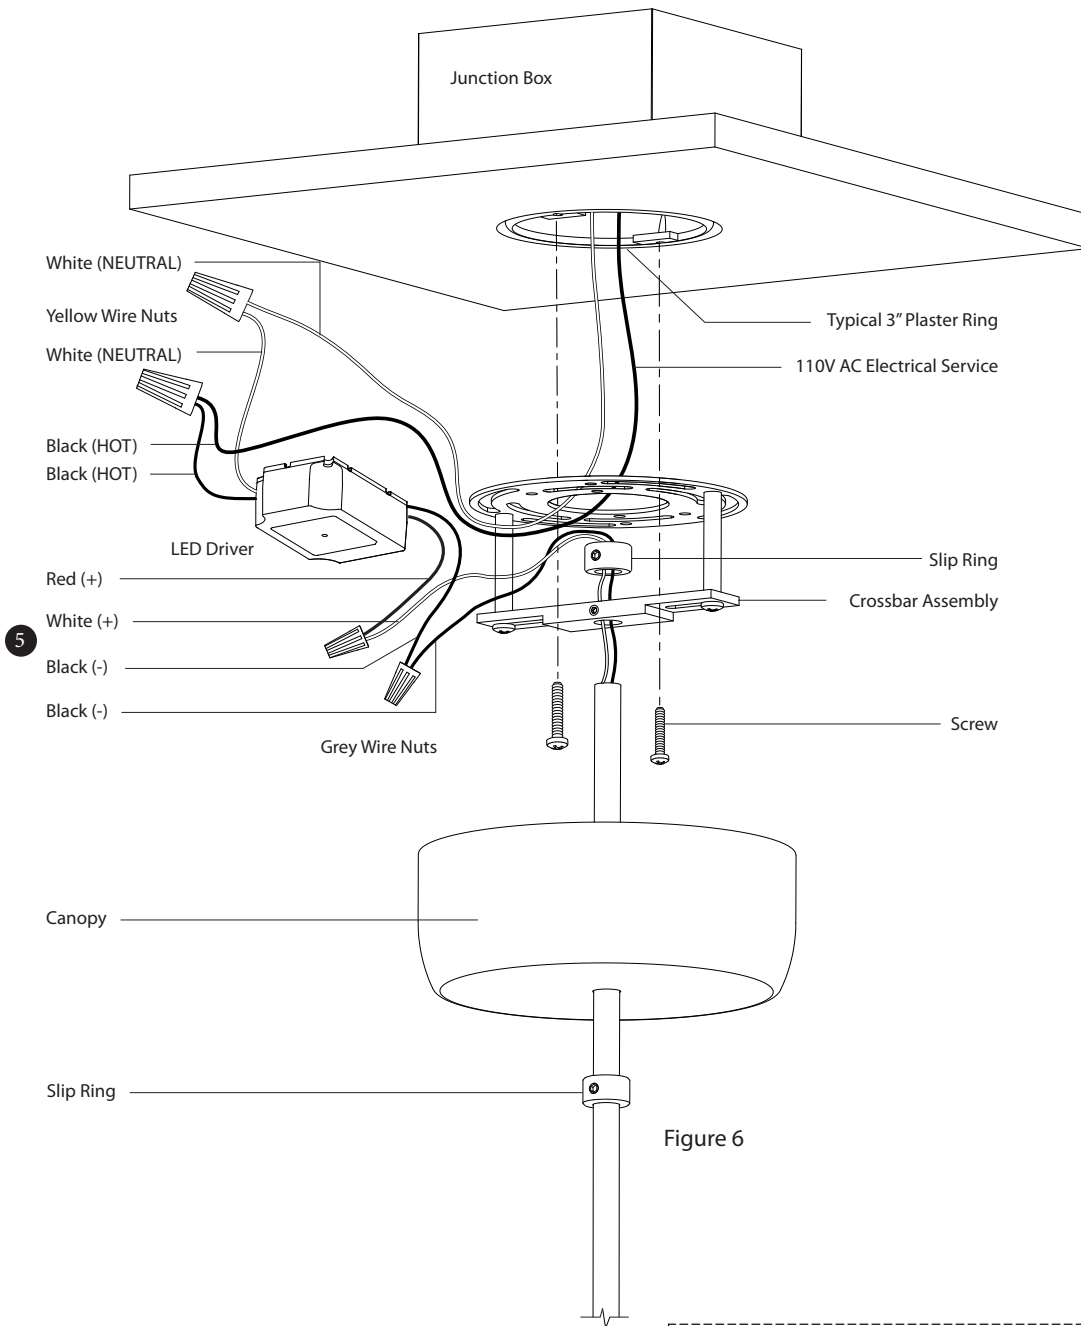

Figure 6
- Make electrical connections as shown in figure 6 (following page) using the supplied wire nuts.